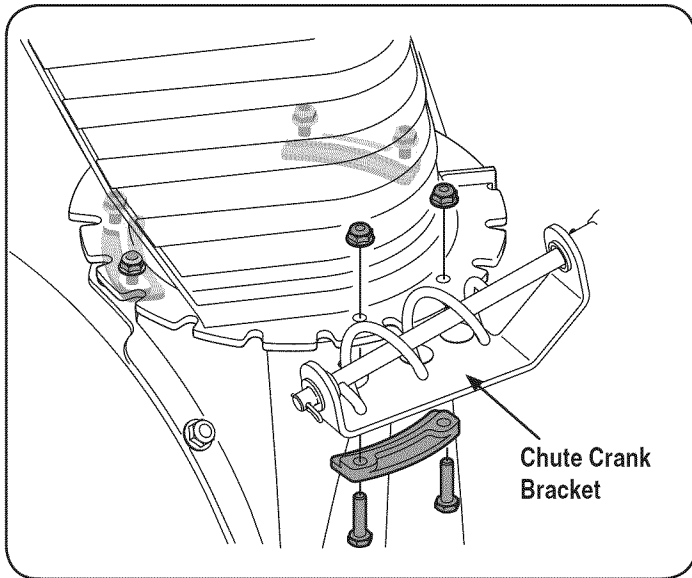

Figure 5
2. Loosen, but do not remove, the chute crank bracket in order to attach the chute assembly. See Fig. 5.
4. Secure flange keeper removed earlier with lock nuts and screws. Tighten down nuts securing the other two flange keepers. See Figure 5.